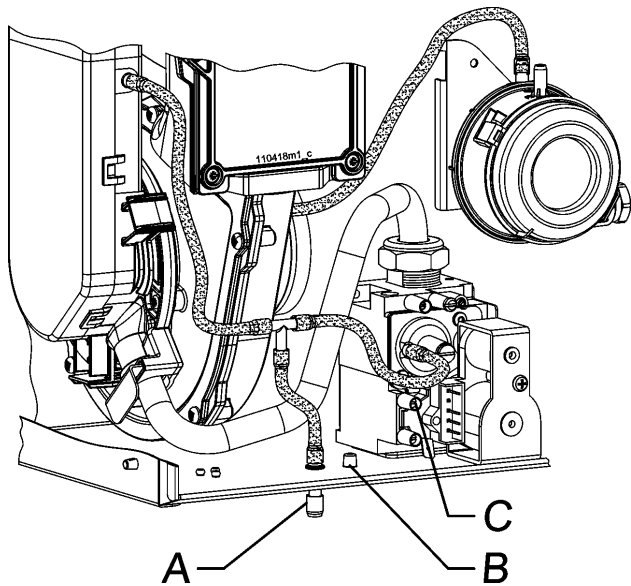

Figure 36 - Combustion air pressure probes
The boiler has a factory-set air/gas ratio. The pressure of the gas at the burner is indirectly controlled by the blower. The combustion air pressure must be checked as follows while referring to figures 36 and 37:
7. insert tube "F", from the negative side of the manometer, through the opening of plug "B", and connect it to pressure probe "C" as shown in figure 36;